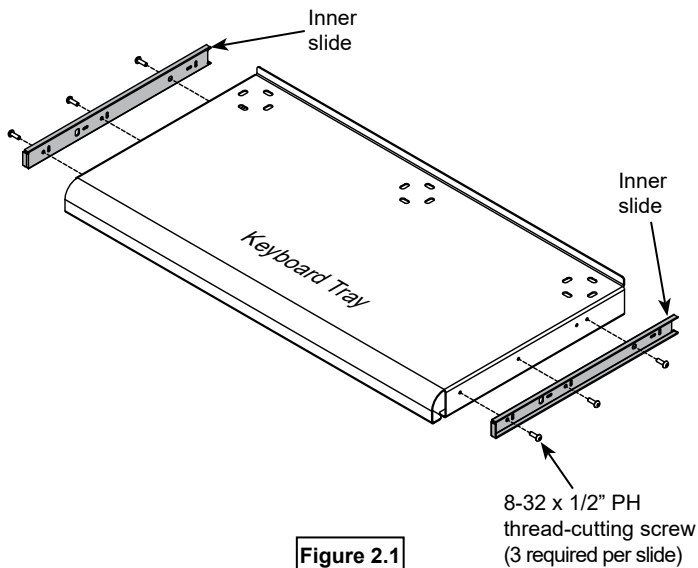

Figure 2.1
1. Attach each inner left and right slide to the keyboard tray with (3) 8-32 x 1/2" PH thread-cutting screws and tighten securely. **Figure 2.1**